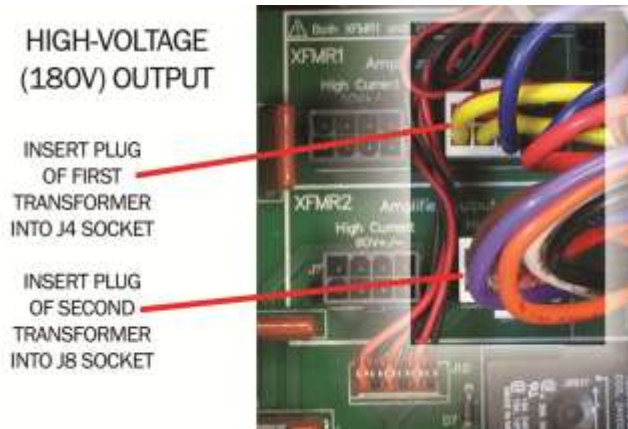

Figure 4.13– Location of Amplifier Voltage Output Sockets
3. For High Voltage (180V) Output (see **Figure 4.13**).